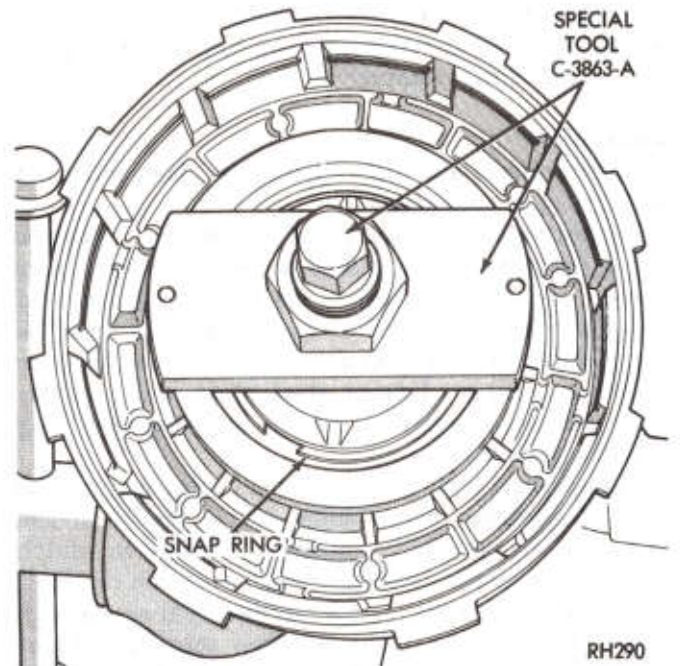

Fig. 23—Front Clutch Spring Retainer Snap Ring (A-727)
(1) Remove large waved snap ring that secures pressure plate in clutch piston retainer. Lift pressure plate and clutch plates out of the retainer. (Snap ring in 5 disc clutch is not waved.)
(2) Install compressor Tool C-3863A, over piston spring retainer (Fig. 23). Compress springs and remove snap ring, then slowly release tool until spring retainer is free of hub. Remove tool, retainer, and springs.
(3) Invert clutch retainer assembly and bump it on a wooden block to remove piston. Remove seals from piston and clutch retainer hub.
(3) Refer to "Specifications" and install proper number of springs on piston exactly as shown in Figure 25 or 26. Position spring retainer and snap ring over the springs. Compress springs with Tool C-3863-A (Fig. 23), and seat snap ring in hub groove. Remove compressor tool.
(4) Lubricate all clutch plates, install one steel plate followed by a lined plate (disc) until the number given in specifications is installed. Install pressure plate and snap ring. Make sure snap ring is properly seated.
(5) Insert a feeler gauge between pressure plate and waved snap ring to measure maximum clearance